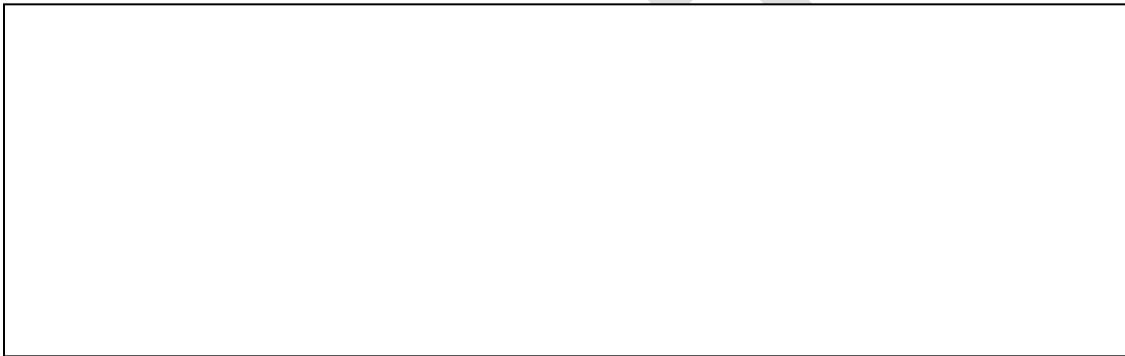

Figure 3. Manual Fuel Shutoff Valves
3. Refer to Figure 3. Open fuel manual shutoff valves.